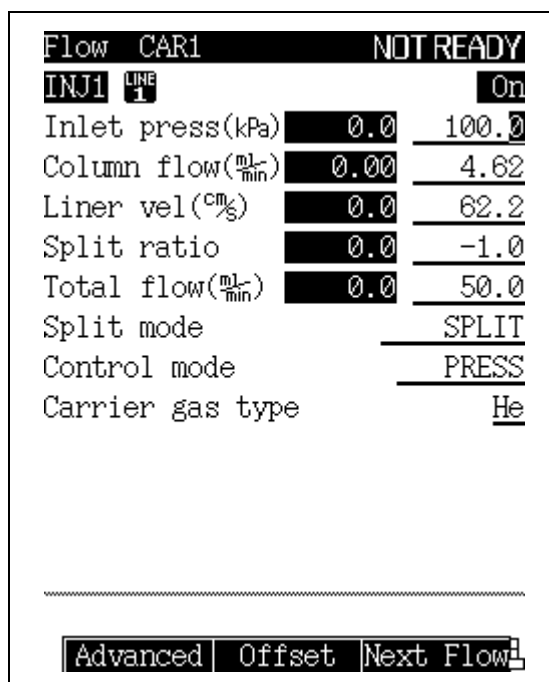

Fig. 3.6.2
- (2) Turn off the power. Wait until the column oven, the injection port and the detector have cooled down to 50°C or less.
- (3) Turn on the power. Wait for approximately 1 minute.
- (4) Press the [FLOW] key once and the toggle key twice, in that order. Then, the Fig. 3.6.2 opens.
- (5) Press the PF2 key. The message “Zero Calibration Start” appears at the bottom of the monitor. Approximately 10 seconds later, the message “Zero calibration completed” appears. Calibration of the AFC is complete.
- (6) Return the “Start GC” setting to its original status.